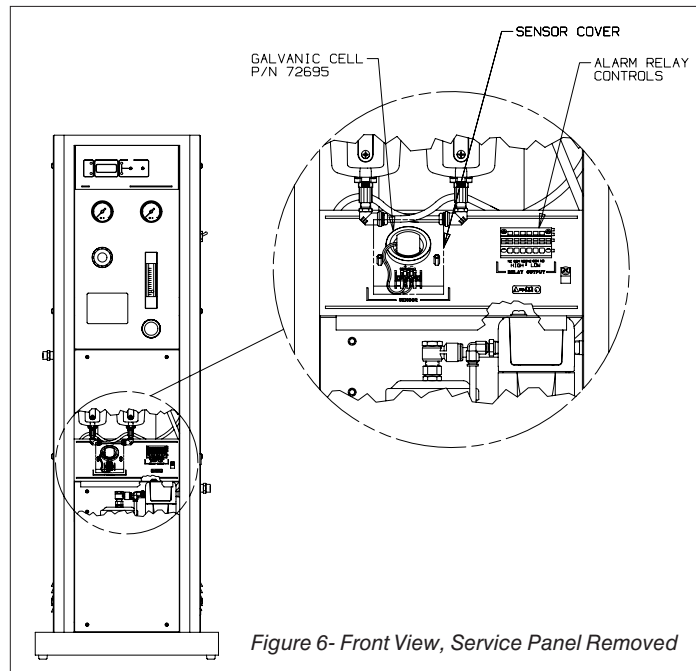

Figure 6- Front View, Service Panel Removed
- 1 Remove filter access panel and sensor cover to expose galvanic cell holder (see Figure 6).